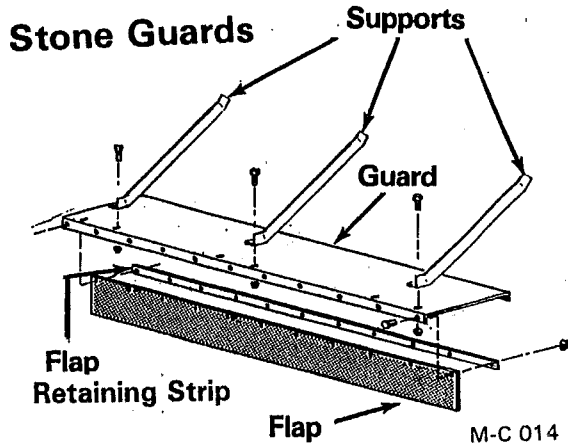

Figure 7
1. Assemble the stone guard flaps and retaining strips to the stone guards as shown in Figure 7 and 8. Use $\frac{3}{8}$ "-16 x 1" hex washer head capscrews and whiz locknuts.